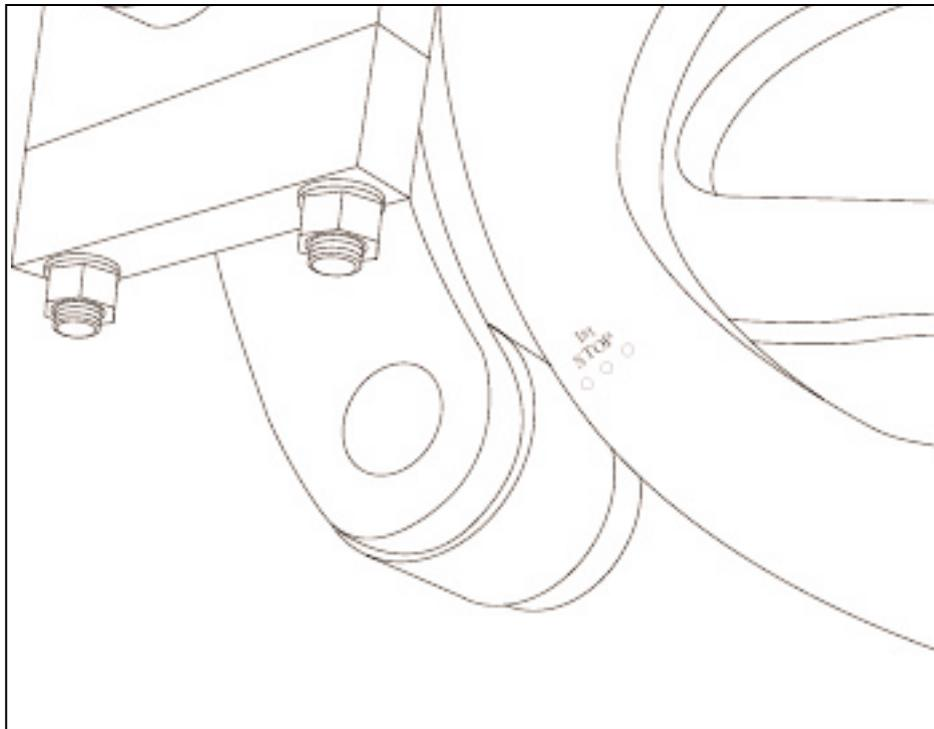

Figure 4.31 "FIRST STOP" (R.H. side of machine).
4.3.1 Run machine to "first stop" (see figure 4.31)